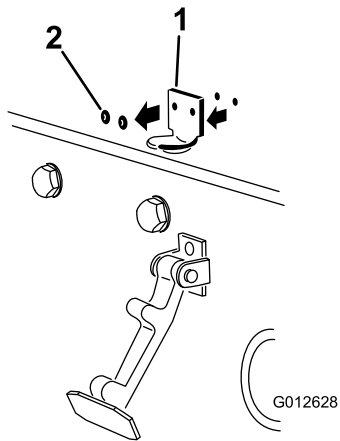

Figure 3
- Remove the 2 rivets securing the hood-latch bracket to the hood (Figure 3).